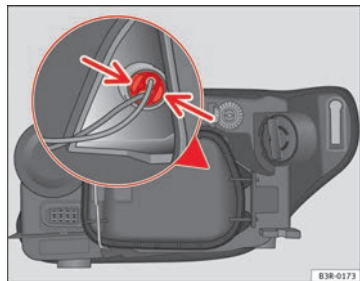

Fig. 196 Side light bulb (outside of vehicle)
- Gently press on the bulb holder tabs → fig. 196 and pull the cover upwards (it can also be removed by pulling on the bulb holder wires).